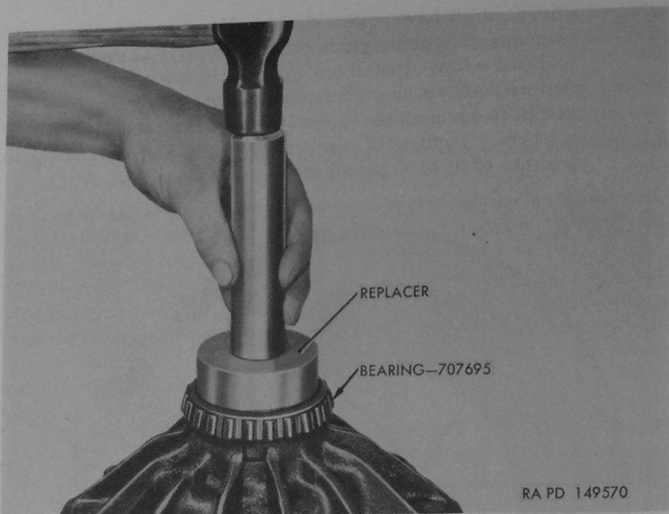

Figure 143. Installing differential side bearing with replacer 41-R-2381-220.
(3) *Installation of differential side bearings.*—Install cone of bearing assemblies (B) and (U) in case and case cover, using replacer 41-R-2381-220 in manner illustrated in figure 143. Bearing must seat solidly against shoulder of case and case cover.